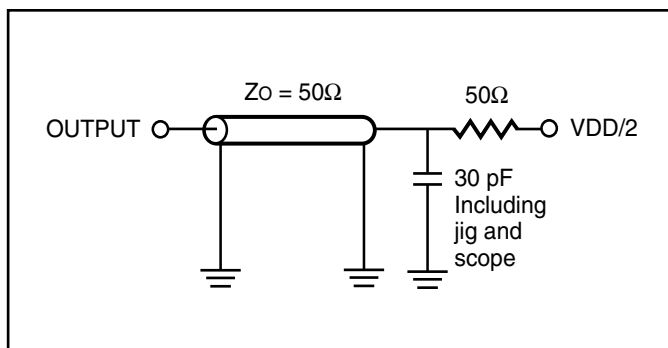

Figure 1.
1. Test conditions and output loading conditions are specified in the AC Test Conditions and AC Test Loads (Figure 1)